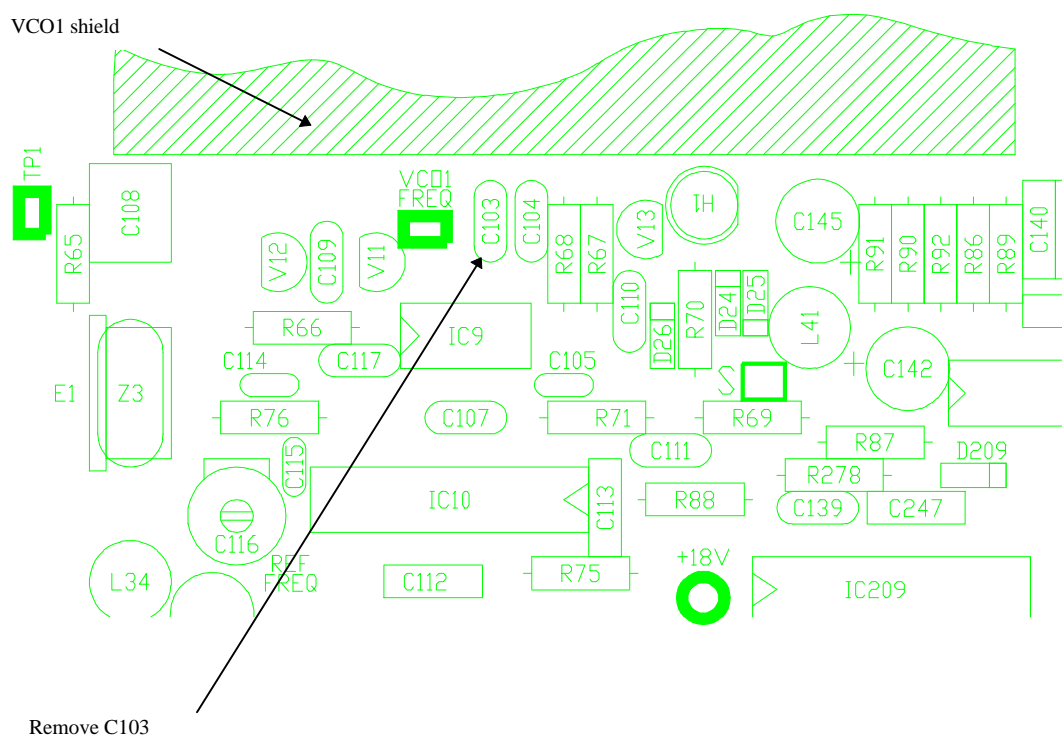

Figure 1. Location of C103
- Locate and remove C103 from the PCB. Refer to Figure 1.